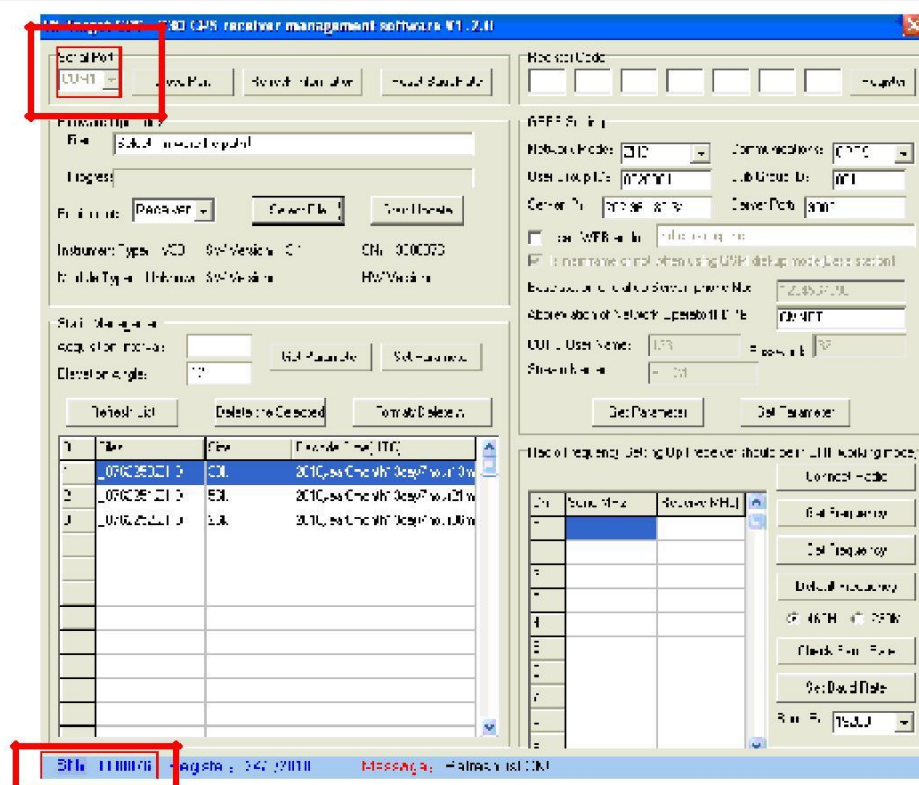

Figure 4-2
- After connecting successfully as figure 4-2: the S/N will be showed in the below
4. After connecting successfully as figure 4-2: the S/N will be shown in the bottom